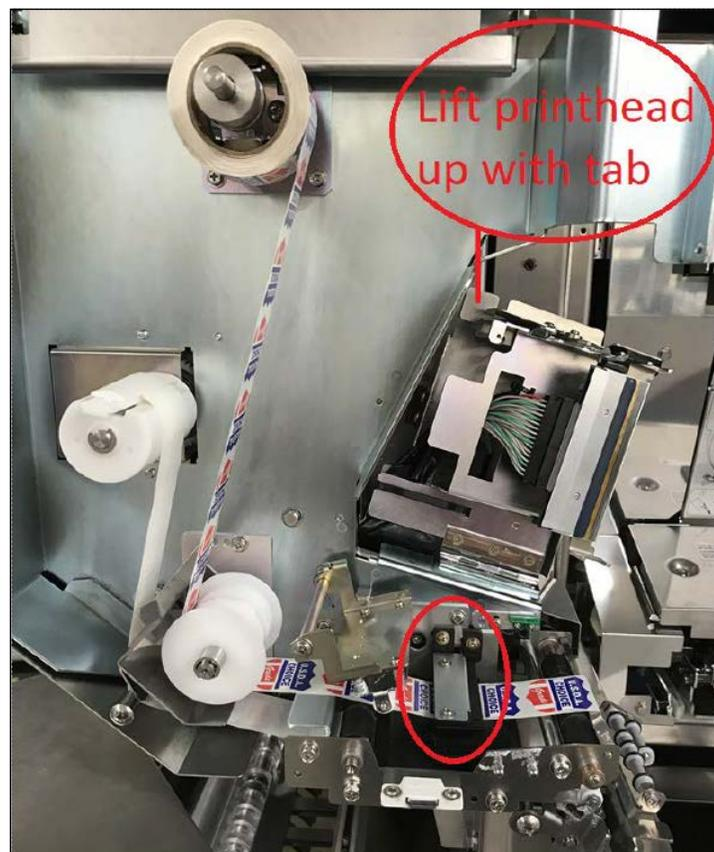

Figure 2-13. WM-Ai Labeler
9. For the WM-Ai USDA labeler, open the print head and clean the print head and roller. Load labels as indicated below, taking care to thread labels into the gap sensor, circled in red (See Figure 2-13).